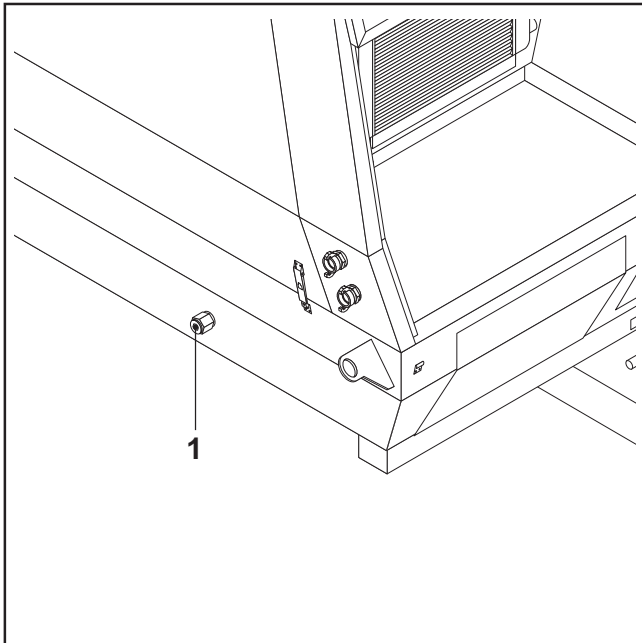

FIG.64
- Remove cap (FIG.64-REF.1) and drain the oil.